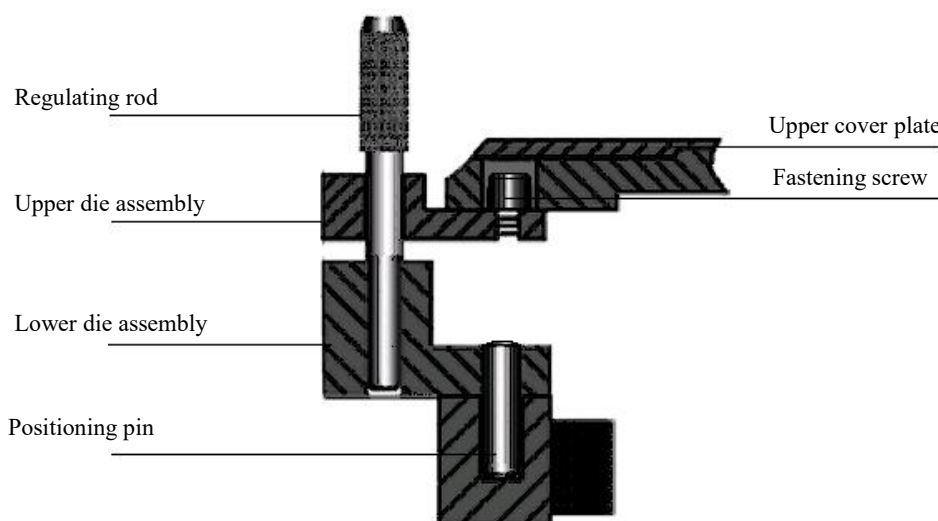

Fig.6 Centering the Die assembly
5.1.1 Replace filling die assembly (refer to Fig. 6)